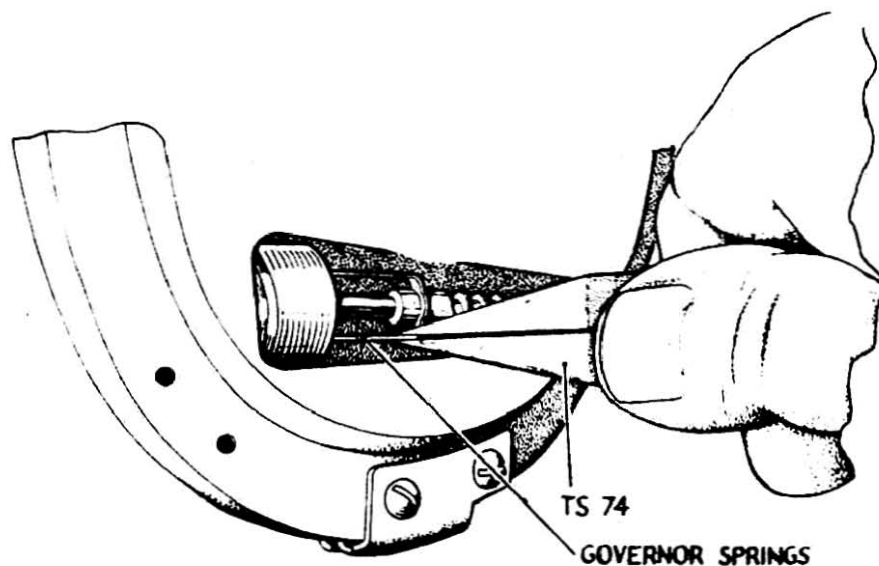

FIG.15 ADJUSTMENT OF DIAL SPEED
- .1 The speed of the dial can be varied by adjusting the wings of the governor. The wings should be bent from the root only, by means of Tool Switchboard 74 (see Fig 15).